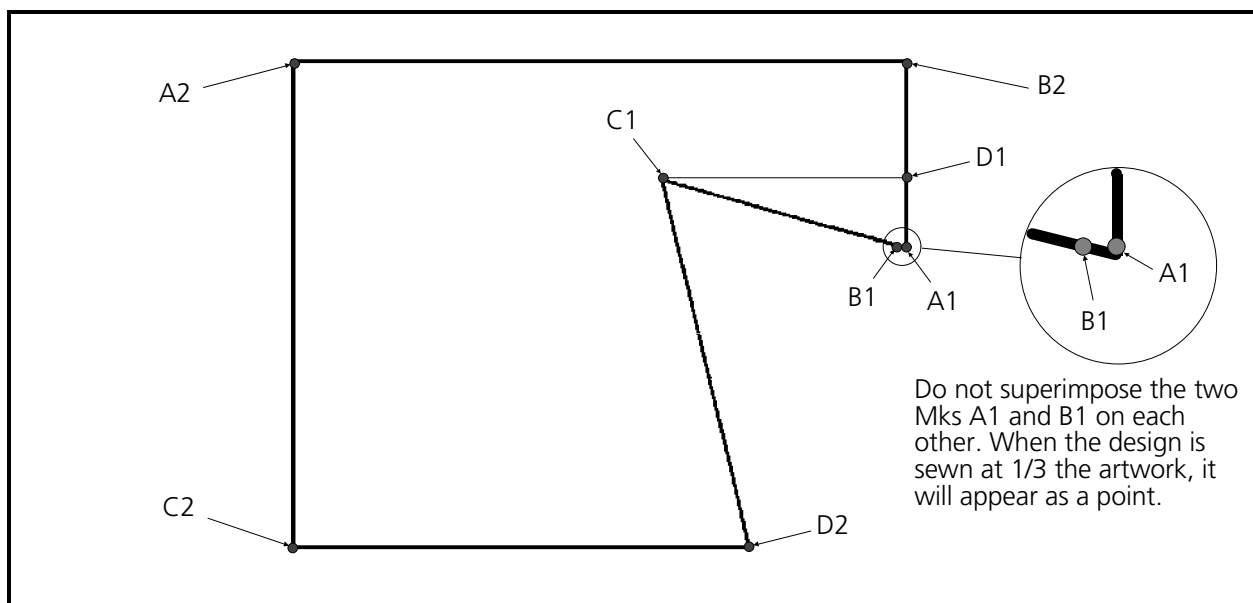

Figure 3-55
1. Draw a line between points C1 and D1 as shown in Figure 3-55. This line must be parallel to the top line of the design (A2 to B2 in the illustration).
2. At the first of the two fills (the triangle) label the first line "A1-B1" and last line "C1-D1" as shown in Figure 3-55.
3. Around the second of the two fills, label the first line "A2-B2" and last line "C2-D2," also shown in Figure 3-55.